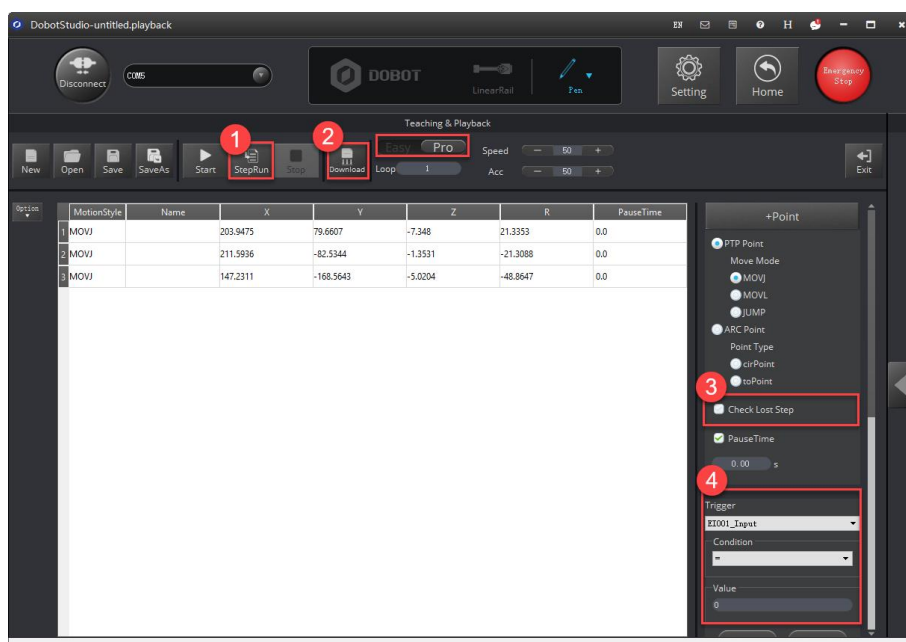

Figure 5.19 The Pro mode of the Teaching & Playback function
- Pro mode:** To enter the **Pro** mode from the current **Easy** mode, click the **Easy/Pro** slider, as shown in Figure 5.19. Apart from all the functions in the default **Easy** mode, the **Pro** mode allows the robotic arm to run a save point each time, detect lost-steps, work in offline mode, and perform the multiplexed I/O interface. For details, see Table 5.9.